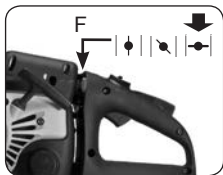

Fig. 9D
- Move the choke lever (F) to |▶| (CHOKE) (Fig. 9D).